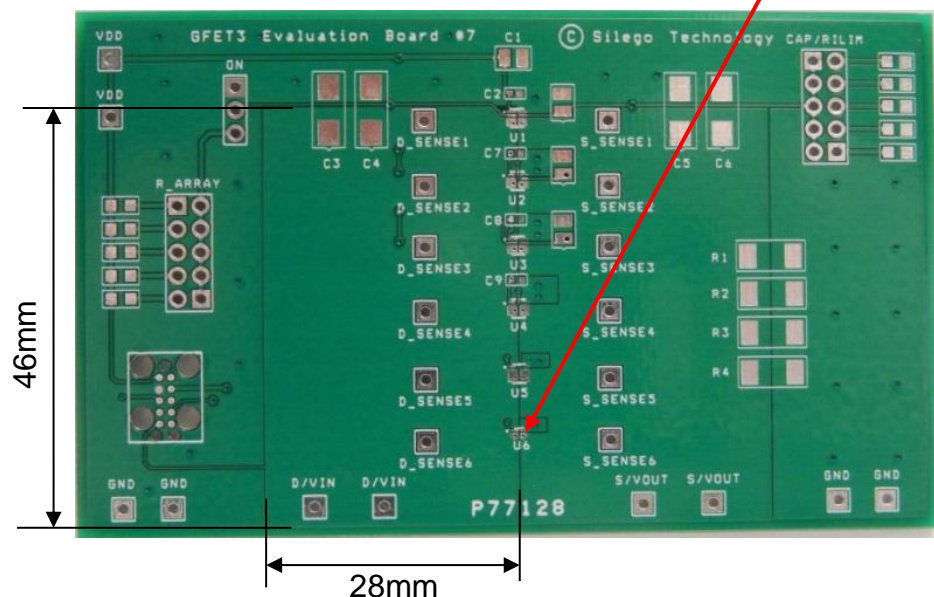

Figure 3. SLG59M1556V Evaluation Test Board
- 2.2. The D/VIN and S/VOUT pins carry significant current. Please note how the D/VIN and S/VOUT pads are placed directly on the power planes in Figure 3, which minimizes the RDS(ON) associated with long, narrow traces. The D/VIN, S/VOUT and GND pins dissipate most of the heat generated during high-load current condition. The layout shown in Figure 3 is illustrating a proper solution for heat to transfer as efficiently as possible out of the device.